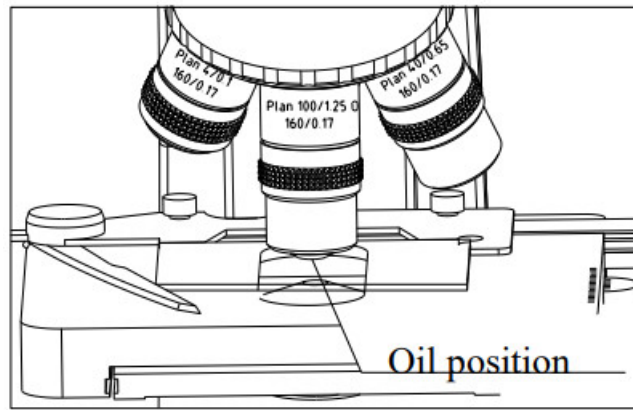

Fig.9
2. Put a drop of oil on the specimen. (See fig.9)